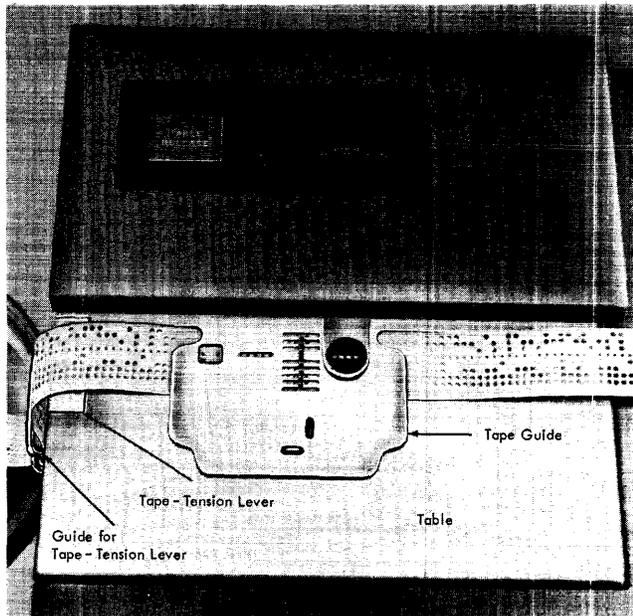

Figure 24. 1054 Controls
### Controls (Figure 24)
*Tape-Tension Lever.* If a strain is placed on the tape so that it can no longer feed, this lever is activated, and the reader stops (see Figure 24).